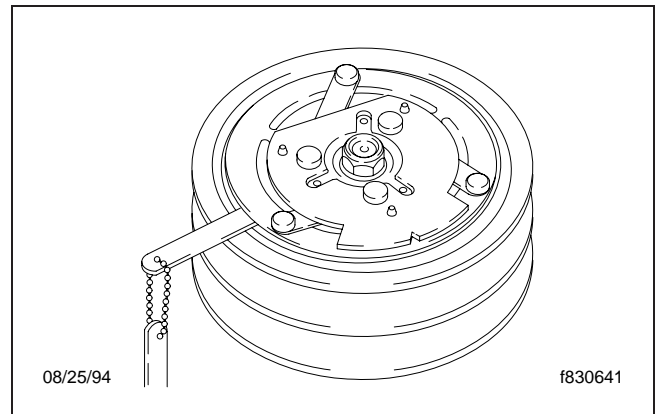

Fig. 1, Drive Plate Clearance Inspection
4. On a Sanden A/C compressor, use a feeler gauge to check that the drive plate clutch clearance is 0.016 to 0.030 inch (0.4 to 0.8 mm). See **Fig. 1**. If the drive plate clutch requires adjustment, see **Group 83** of the *Condor® Workshop Manual*.